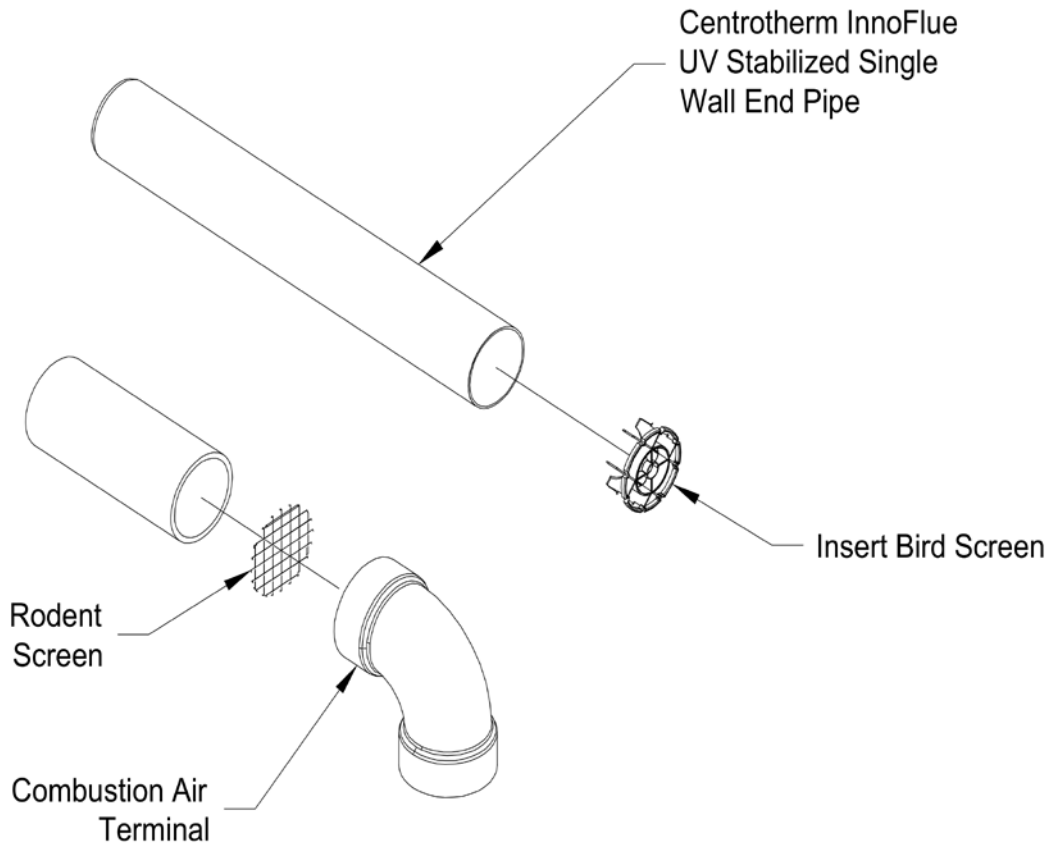

Figure 7.44: Installation of Centrotherm InnoFlue UV Stabilized Single Wall Horizontal Terminal
- a. See Figure 7.44 for proper orientation of twin pipe horizontal terminals. Outer edge of end pipe must be 10" or less from the wall surface. (Figure 7.5)